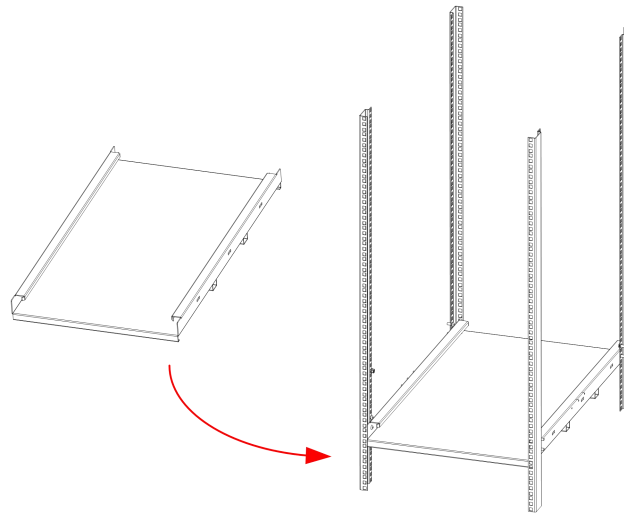

Figure 3-9 Install rack tray
4. Install rack tray on the server cabinet, as Figure 3-9 shows;